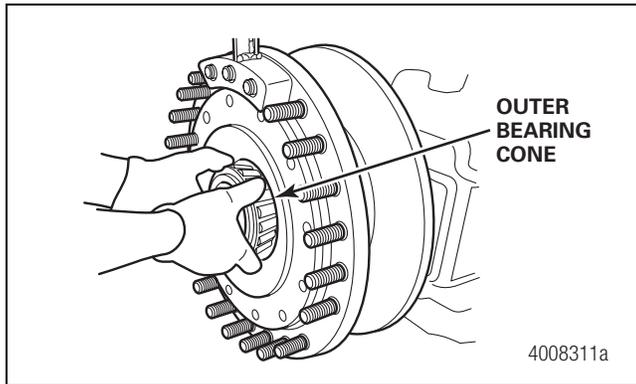

Figure 8.14
2. Install the outer bearing cone into the hub assembly. Figure 8.14.